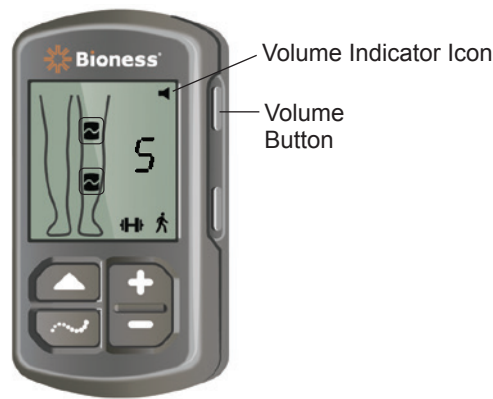

Figure 4-10: Volume Button on Control Unit
1. Press the Volume button on the Control Unit. See Figure 4-10. The Volume Indicator icon in the upper right corner of the digital display will disappear.
1. Press the Volume button on the Control Unit. See Figure 4-10. The Volume Indicator icon in the upper right corner of the digital display will appear.